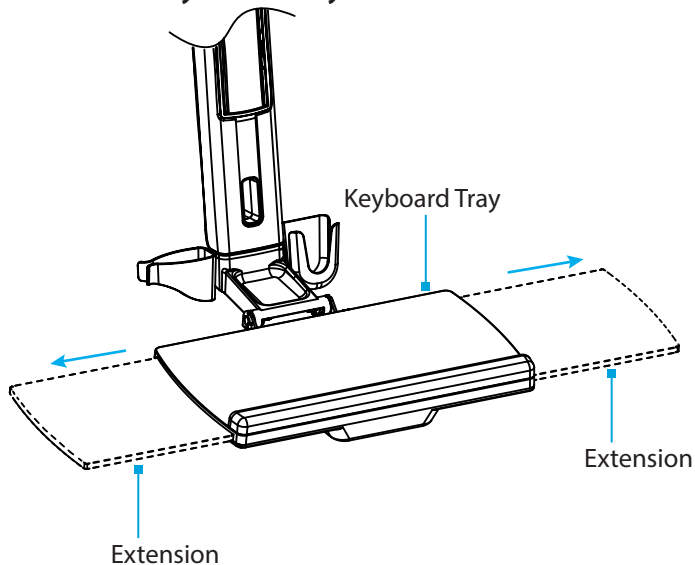

Figure 29
- Pull to extend the **Extensions** to the left and/or right of the **Keyboard Tray**. (Figure 29)